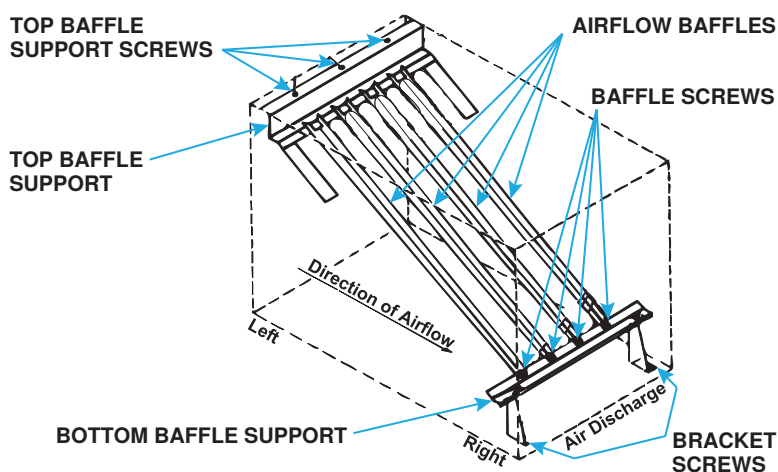

Figure 6. Airflow Baffles
1. Remove baffle screws (see Figure 6) and lift each airflow baffle slightly and slide forward. Remove all baffles from heat exchanger.
2. Remove top baffle support screws (see Figure 6) and remove top baffle support. Reposition and secure support on opposite end of heat exchanger using screws.
3. Remove bracket screws (see Figure 6) and remove bottom baffle support and bracket assembly. Reinstall bracket screws to plug holes in heat exchanger bottom. Reposition bottom baffle support and bracket assembly on opposite end of heat exchanger and secure using field-supplied sheet metal screws.